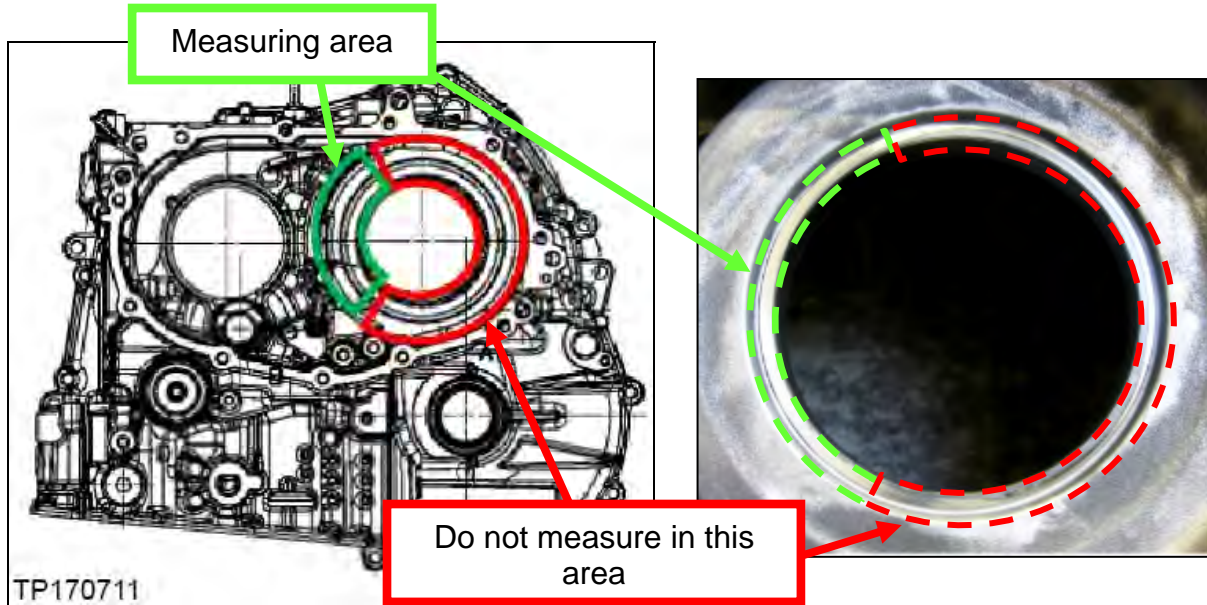

Figure 4M
- Refer to the Figures 4M and 5M and then proceed to page 56.
IMPORTANT: Please refer to Figure 4M for acceptable areas (highlighted in green) to measure “Y”.